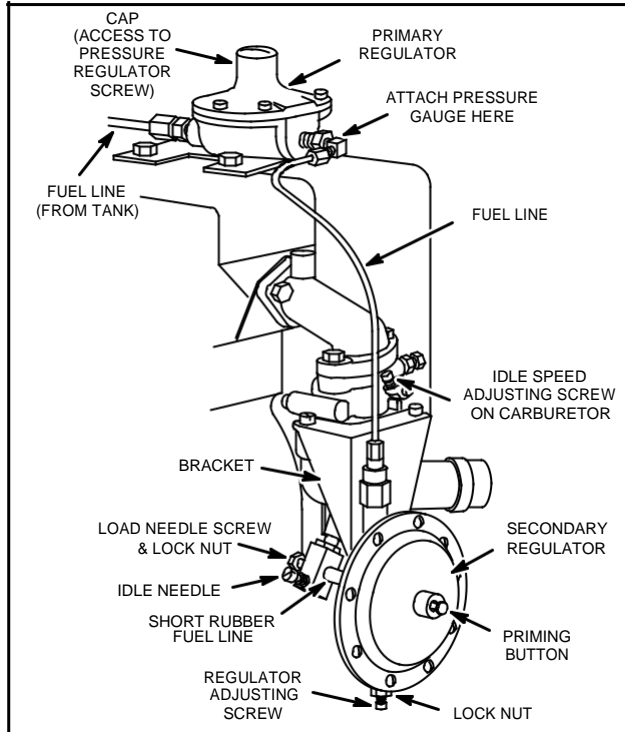

Fig. 300 - ADJUSTING CARBURETOR, LP FUEL SYSTEM
4. Shut off valve at cylinder, Fig. 300.
7. Remove cap or top of primary regulator, Fig. 300.
16. Secondary regulator must remain mounted so diaphragm is in a vertical plane, Fig. 300.
31. Retighten fuel line connections, Fig. 300.